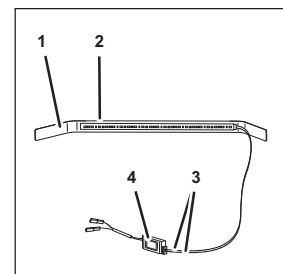

Fig. 47
2. Remove the LED strip (Fig. 47/2) from the retaining plate (Fig. 47/1).
3. Remove any adhesive residue from the retaining plate (Fig. 47/1).
4. Disconnect the electrical cables (Fig. 47/3) (cable no. 220112038) on the voltage transformer (Fig. 47/4).
5. Apply Velcro tape to the new voltage transformer (Fig. 47/4).
6. Connect the electrical cables (Fig. 47/3) (cable no. 220112038) of the new LED strip (Fig. 47/2) to the voltage transformer (Fig. 47/4).
7. Apply the LED strip (Fig. 47/2) to the adhesive area on the retaining plate (Fig. 47/1).